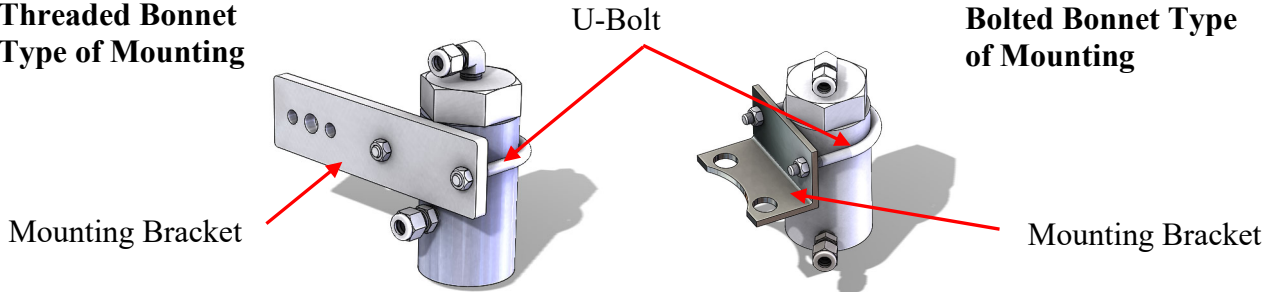

Figure 64: Accessory and Mounting Bracket
5. Install the AF onto the mounting bracket with the U-bolt included in the kit. See Figure 64.